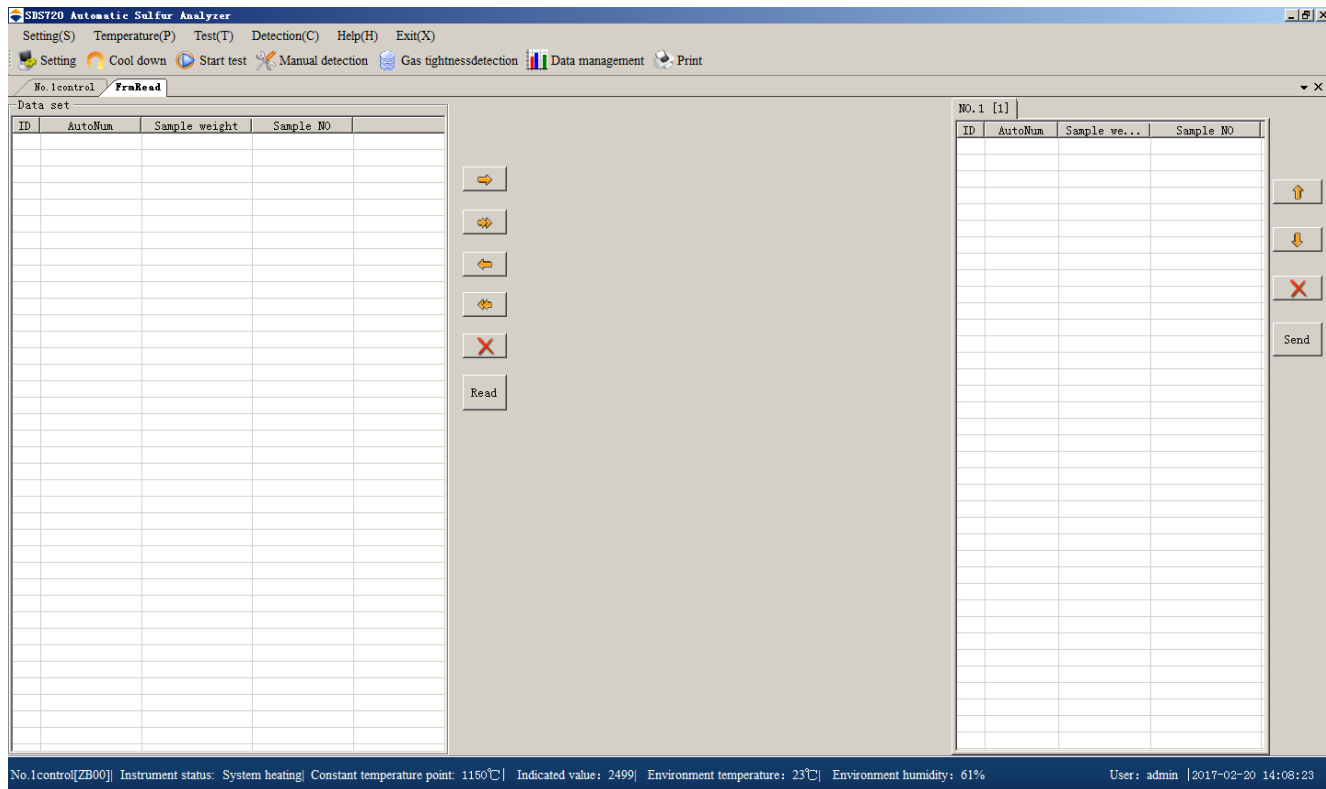

Fig.4-8-3
- ✧ The output requirement for balance data is set as: No functional store, single print after stabilization (613).
4. Weight management: Click "Weight management," tab in " Test " or click on "weight management" in the shortcut bar, the window as shown in figure 4-8-3.will pop up